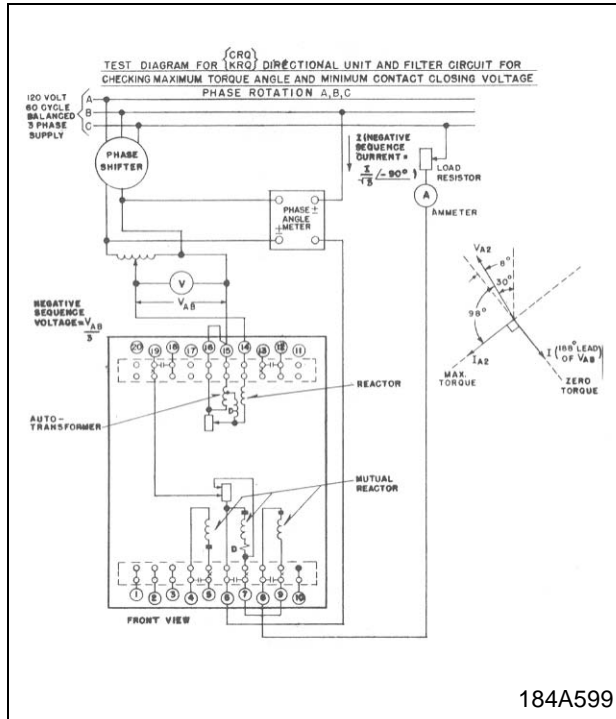

Figure 13: Test diagram for checking max. torque angle and minimum voltage for contact closure of direct units.
2. Sensitivity - Refer to the test diagram in fig. 13. Apply a single-phase voltage V_{12} equal to 0.57 volts (corresponds to a negative-sequence input voltage of .19 volts) and a single-phase current equal to 6.93 amperes as shown (corresponds to a negative sequence input current of 4 amperes). With a phase angle meter connected as shown, rotate the phase shifter until the current leads the voltage by 188° . This corresponds to the negative sequence component of current leading the negative sequence component of voltage by 98° . The directional unit contact should pick up within $\pm 10\%$ of the above input voltage to the relay.
Fault Detector (FD) Either apply three phase negative sequence current equal to the scale setting or apply single phase current equal to N/~3 times the scale setting. These currents are applied to the relay terminals as shown in Fig. 13. The contacts should pick-up within 10% of these currents.
The spring is to be adjusted such that the contacts will close when the relay is energized with 0.57 volts and 6.93 amps at 188 ° (current leading voltage 1 considering the relay connected to the test circuit in Fig. 13).
Apply single phase current as shown in fig. 13. Set the micarta disc at some particular current setting on the scale plate. The contact should close within 10% of this value. The core screw at the top of the switch will affect the pickup (as well as dropout). If this is moved then the unit should be checked for erratic action at 30 amps A.C.